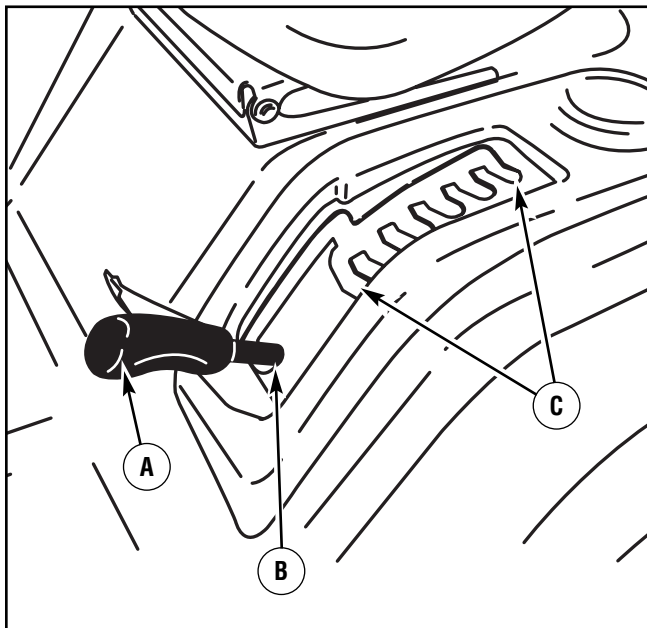

Figure 39: Lever adjustment
4. Move the **deck lift lever** to the LEVEL ADJUSTMENT position (Figure 39).